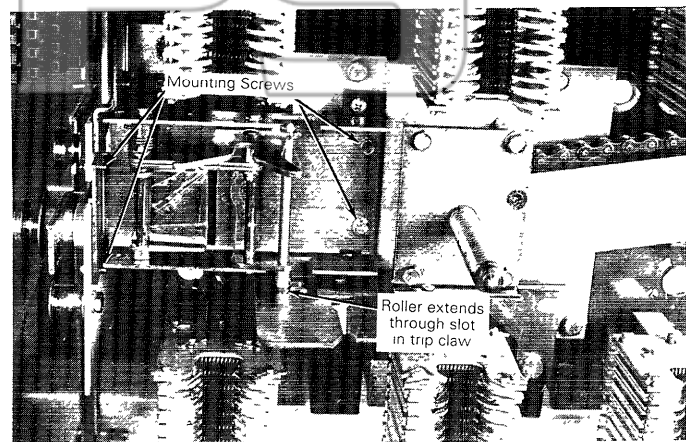

Figure 5. Interlock installed on the breaker.
4. Install the interlock mechanism, as shown in Figure 5, so that the interlock plunger fits in the hole in the frame and the roller goes into the slot in the trip claw. Secure with four #10-32 hex-head screws tightened to 15 in-lb.